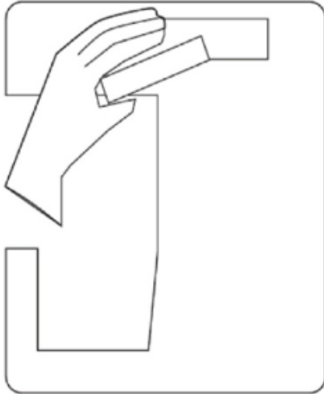

Figure 10
2. If using vinegar, leave the vinegar in the unit for 18 hours and set a vinegar-soaked towel on the ice chute overnight to further dissolve any mineral buildup. See figure 10.